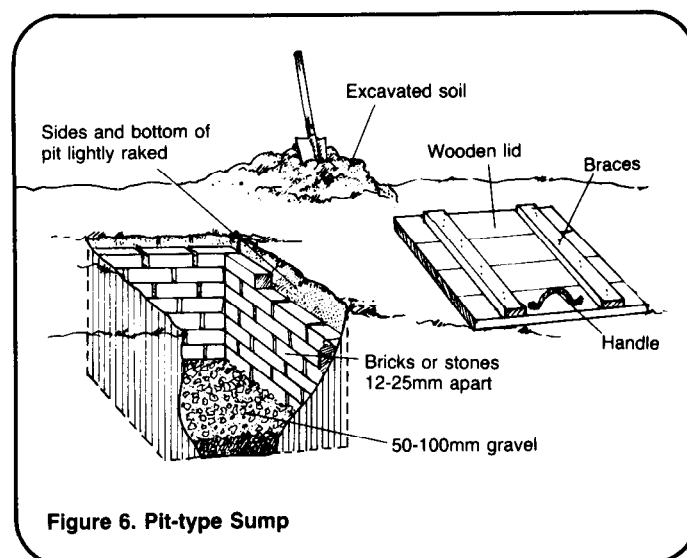

Figure 6. Pit-type Sump
5. Line the sides of the hole with concrete blocks, bricks, or stones as shown in Figure 6. Leave spaces of 25-50mm between the bricks.